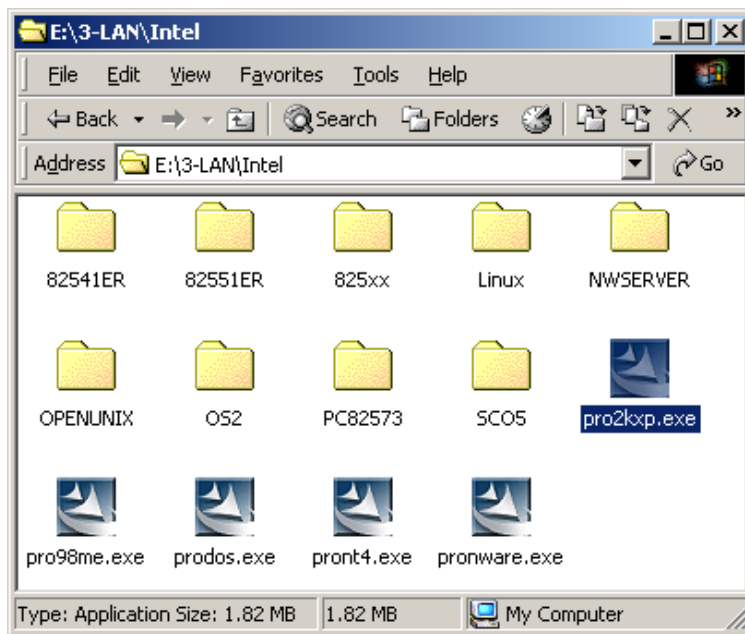

Figure 7-17: Select the Driver
Step 4: A new window appears (Figure 7-17).